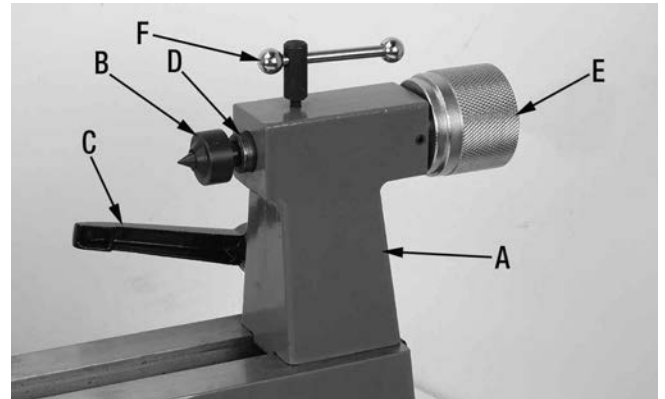

FIGURE 8
The tailstock (A) Fig.8 is moved along the lathe bedway to support the other end of your workpiece using a live center (B). To move the tailstock, loosen locking lever (C) and slide tailstock. Retighten locking lever to secure tailstock. The tailstock quill (D) moves in and out by turning handwheel (E) and is locked into place using lock handle (F).